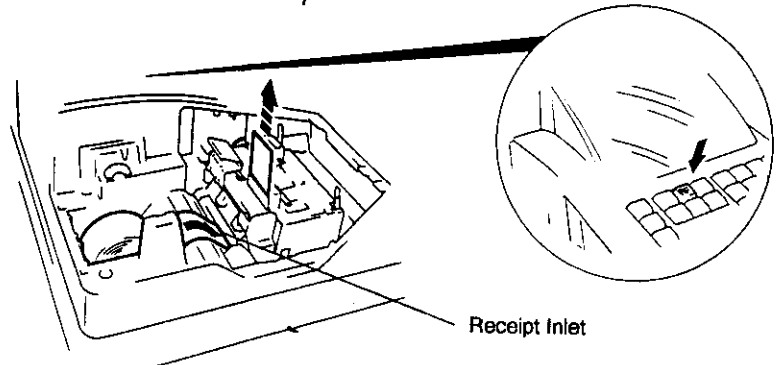

Fig. 5
6. Insert the paper end into the Receipt Inlet, then feed the paper by pressing the [RF] key. (Fig. 5)